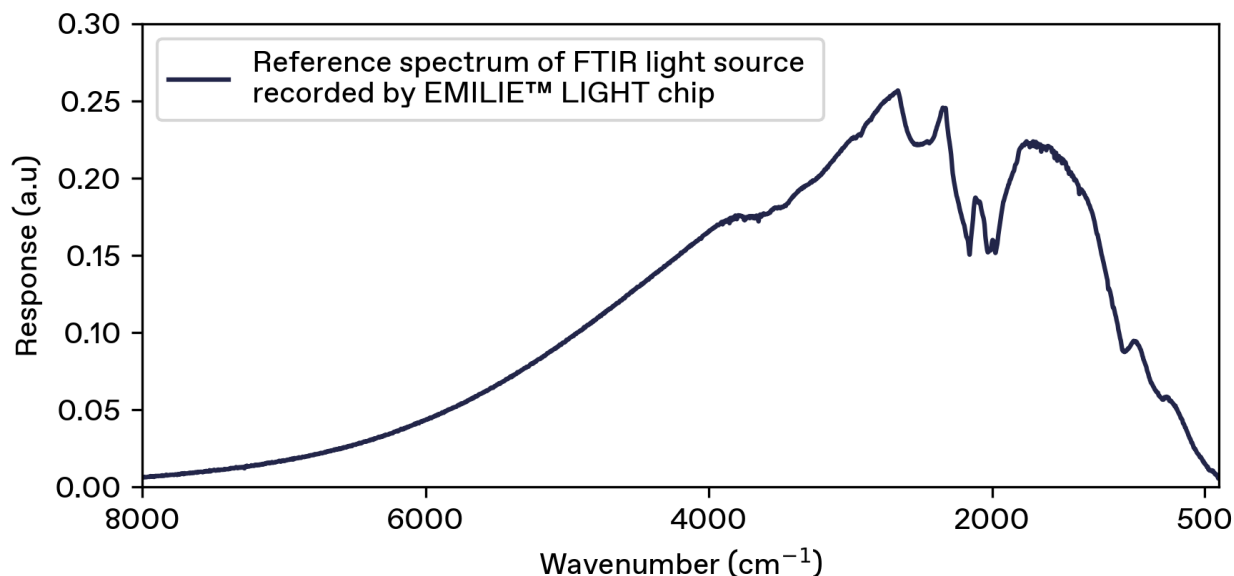

Figure 46: Example of a NEMS-FTIR background spectrum recorded with an EMILIE™ LIGHT chip in a Vertex 70 using a KBr Broadband beamsplitter.
5. Acquire the spectrum by pressing "Start a Step Scan" in OPUS. Figure 46 shows a NEMS-FTIR background spectrum of a Bruker Vertex 70 globar with a KBr Broadband beamsplitter.
The background spectrum is recorded in the absence of analyte using an EMILIE™ LIGHT chip and can be obtained by following the instructions in Section 5.2.7. Figure 46 shows a NEMS-FTIR background spectrum of a Bruker Vertex 70 globar with a KBr Broadband beam-splitter.